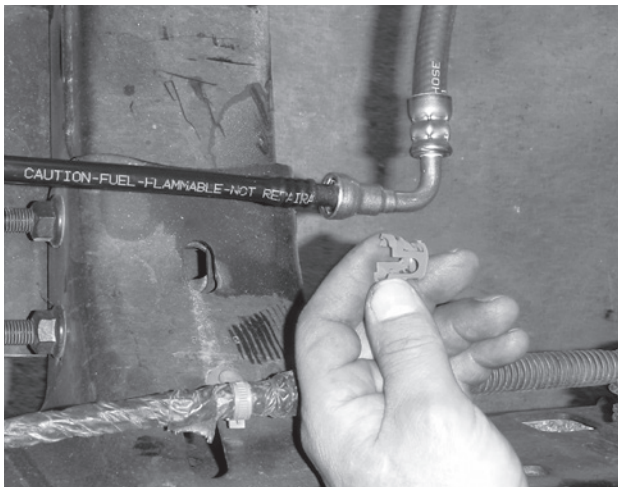

fig. 1
1. Remove the locking clip out of the plastic fuel line at the tank as shown (fig. 1.)